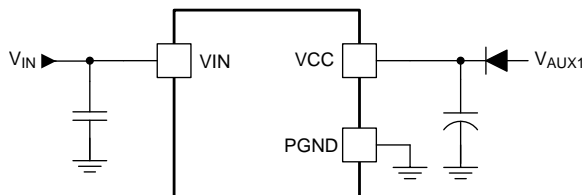

Figure 12. External VCC Bias Supply Connection
The internal power dissipation of LM5036 device can be reduced by powering VCC from an auxiliary supply. LM5036 device integrates all of the functions needed to implement a low-cost and ease-to-design isolated fly-buck topology auxiliary supply based on constant-on-time (COT) control scheme. The primary output V_{AUX1} of the auxiliary supply must be connected through a diode to the VCC pin, as shown in Figure 12. The auxiliary supply must raise the VCC voltage above the internally generated VCC voltage in order to shut off the internal start-up regulator. Powering VCC from an auxiliary supply improves efficiency while reducing the power dissipation of the controller IC. The VCC under-voltage (UV) circuit will still function in this mode, requiring that VCC never falls below its UV threshold during the start-up sequence. The VCC regulator series pass transistor includes a diode between VCC and VIN that should not be forward biased in normal operation. Therefore, the auxiliary VCC voltage should never exceed the VIN voltage.